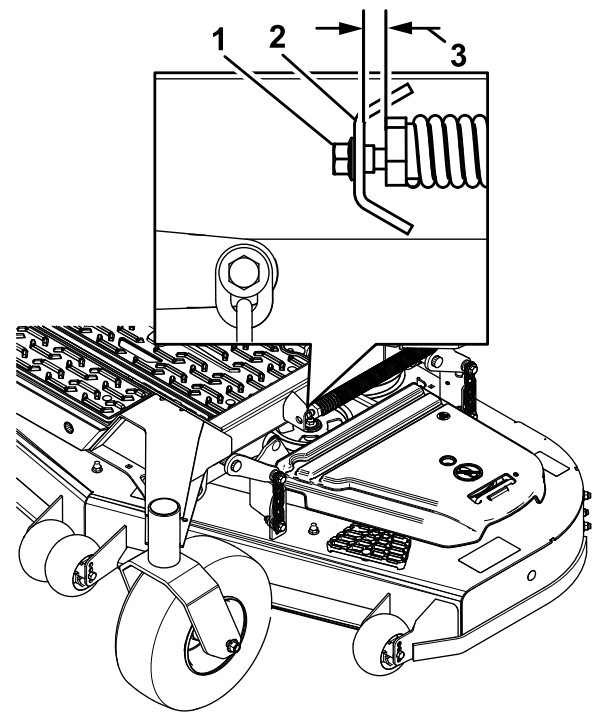

Figure 81
- Slowly loosen the adjusting screw on the lift-assist spring until you can remove the screw (Figure 81).